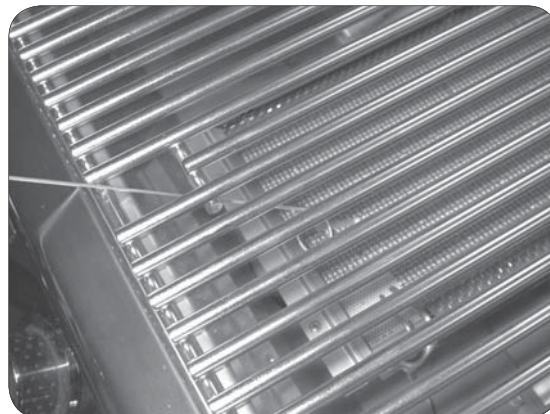

Fig. 19-2 - Manual lighting
**CAUTION:** Always wait five (5) minutes for gas to clear after any unsuccessful lighting attempt.
2. Insert either a burning long-barrel butane lighter, a burning long-stem match, or a burning match held by a wire extension holder through the cooking grid opening to the top of the burner (Fig. 19-2).
4. If the burner does not light, **immediately depress the knob and turn the valve to OFF**. **WAIT FIVE (5) MINUTES** before repeating steps 2 through 4 of the **MANUAL LIGHTING** instructions.